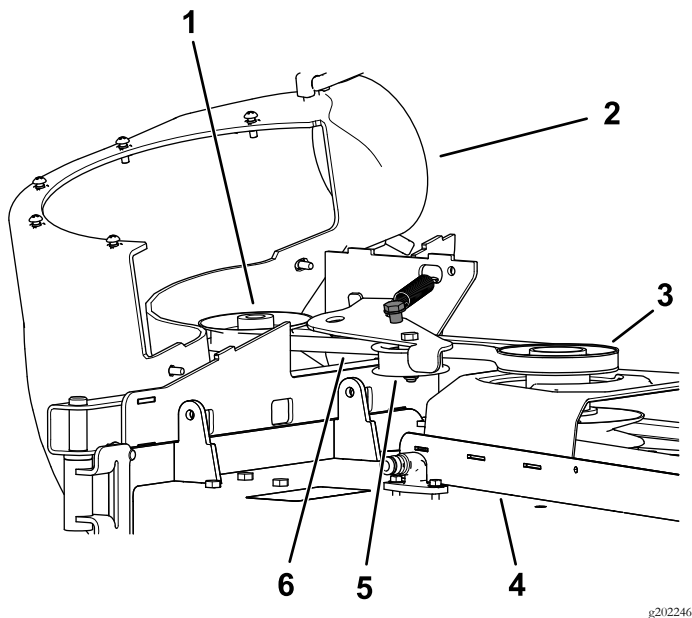

Figure 34
2. Pull back on the spring-loaded idler pulley to relieve the belt tension (Figure 34).
6. Install the new belt around the blower pulleys (Figure 34).
8. Install the new belt around the mower-deck pulley (Figure 34).
9. Pull back on the spring loaded idler pulley and install the belt onto the spring-loaded idler pulley (Figure 34).